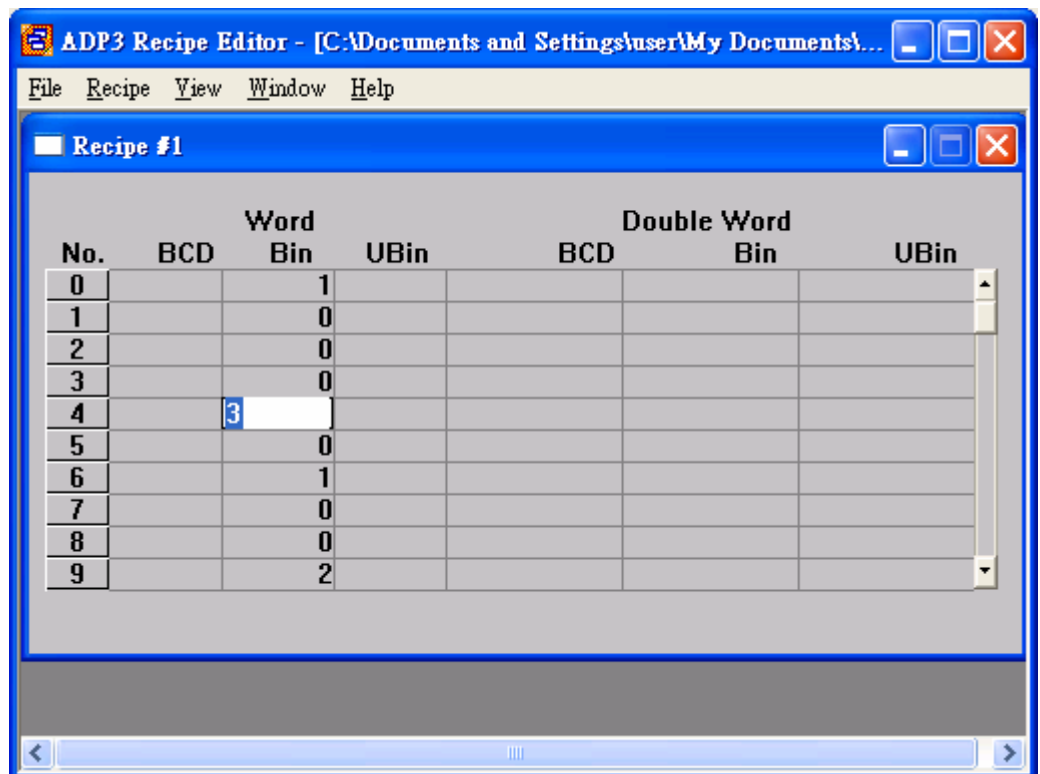

Figure 192. Edit the Recipe Data
7. Its dialog box should be appeared on the screen. See Figure 192. A user can edit the data in the dialog box. Note that the count of editable data is data size. After edit, select [File]/[Save] to save the data. For example, Recipe #1 is (1,0,0,0,3), Recipe #2 is (0,1,0,0,2)...etc.